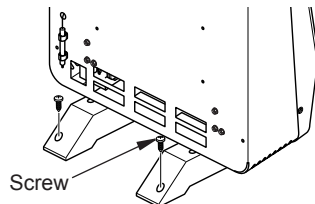

Figure 13 - Securing Heater to Floor
2. Position the heater to the desired location. Secure the base feet to the floor by using two Phillips head screws (provided) (see Figure 13).